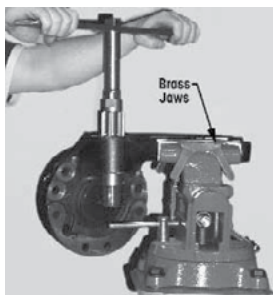

Figure 36.
3. Rotate the reamer smoothly with light downward pressure. Do not apply too much pressure. (See Figure 36)